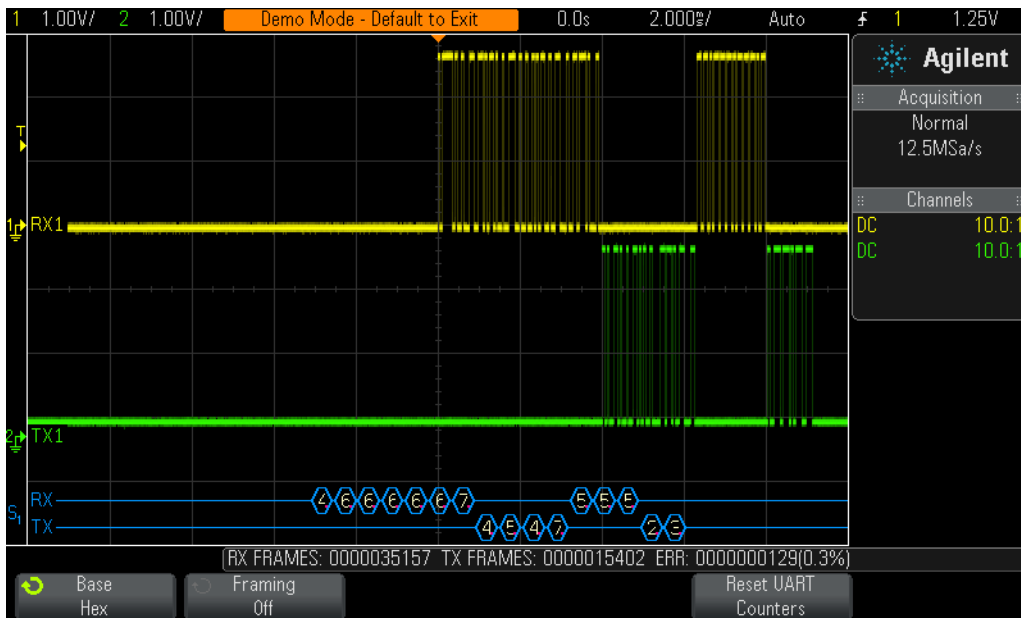

Figure 44 Decoding the RS232/UART serial bus.
You should now see RS232/UART decoding of these signals on your scope's display similar to Figure 44, but we still haven't established stable triggering. The scope is still triggering on any rising edge of channel-1 (default trigger condition). Let's now set up the scope to trigger when the transmit data signal (TX) is equal to 4D_{HEX}.